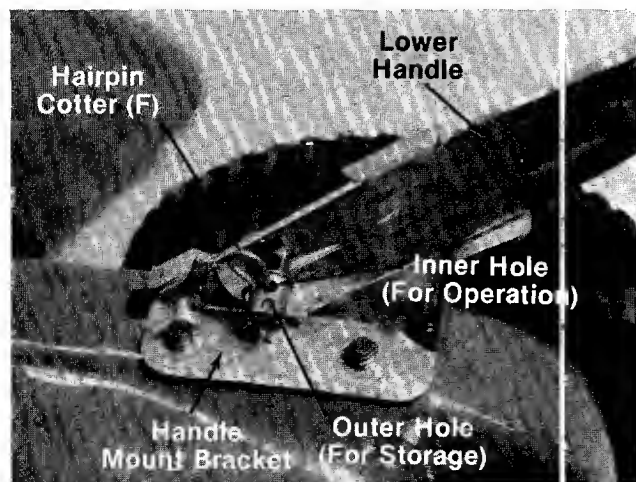

FIGURE 2.
- B (2) Lock Washers 5/16" I.D.
- C (2) Hex Nuts 5/16-18 Thread
- D (1) Curved Head Bolt 1.38" Long
- E (4) Cable Ties
- F (2) Hairpin Cotters
- G (2) Phillips Head Screws
- H (1) Plastic Cap
- I (2) Front Hub Caps (Optional)
3. Attach the lower handle by placing bottom holes in lower handle over weld pins in handle mount brackets on deck. Make certain the instruction label on the lower handle can be read from the operating position. Secure by placing two hairpin cotters (F) in inner hole on weld pins. See figure 2.